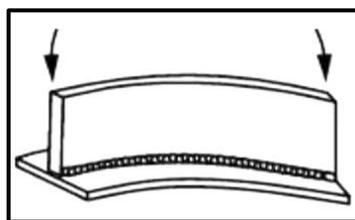

FIGURE 9.6.1
- 9.6 Identify the types of distortion in FIGURES 9.6.1 and 9.6.2 below.